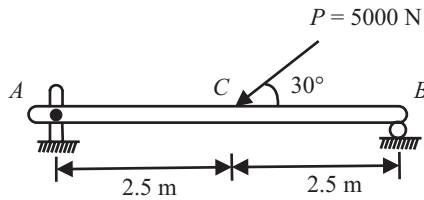

Fig 8.27
Q. 10: A Force $P = 5000\text{N}$ is applied at the centre C of the beam AB of length 5m as shown in the fig 8.27. Find the reactions at the hinge and roller support. (May-01-02)